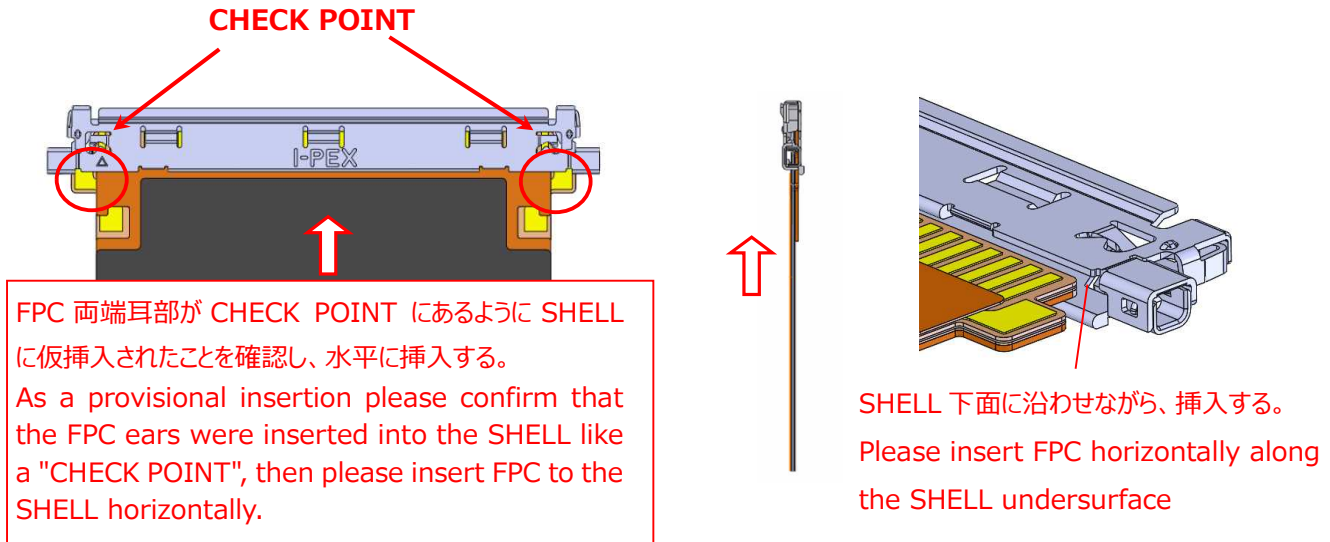

Fig 5. FPC inserting method 2
②図 5 の様に、FPC 両端耳部が CHECK POINT にあるように SHELL に仮挿入されたことを確認し、SHELL 下面に沿わせながら奥まで水平にしっかり挿入する。
As a provisional insertion please confirm that the FPC ears were inserted into the SHELL like a "CHECK POINT" as shown in Fig 5. Then insert FPC deeply horizontally along the SHELL undersurface.